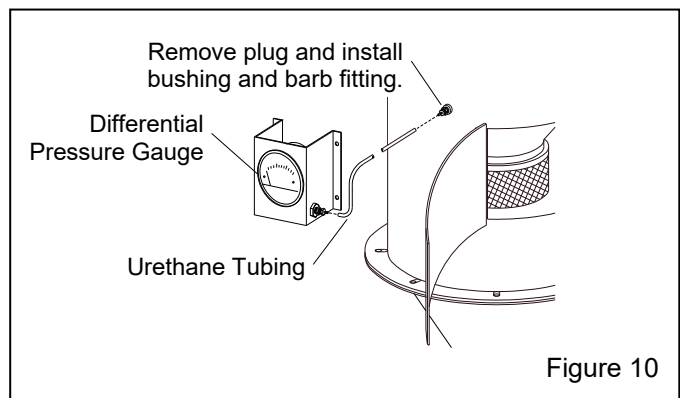

Figure 10
3.5 Reclaimer Differential Pressure Gauge Monitors reclaimer static pressure – Figure 10
3.5.4 Remove the 1/4" pipe plug from the reclaimer body and install 1/4" x 1/8" bushing and barb fitting, as shown in Figure 10.